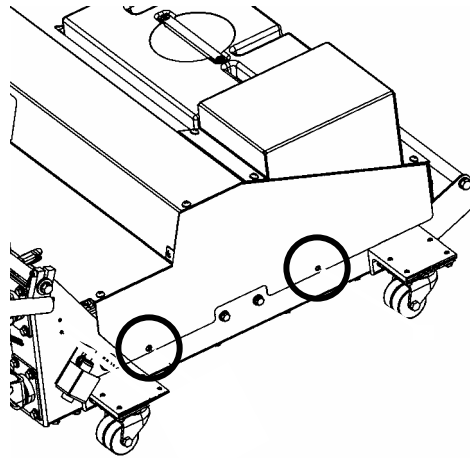

Figure 4-4
1. Remove the two screws, shown in Figure 4-4, from both sides of the hood and lift the hood from the frame. Set aside the screws.